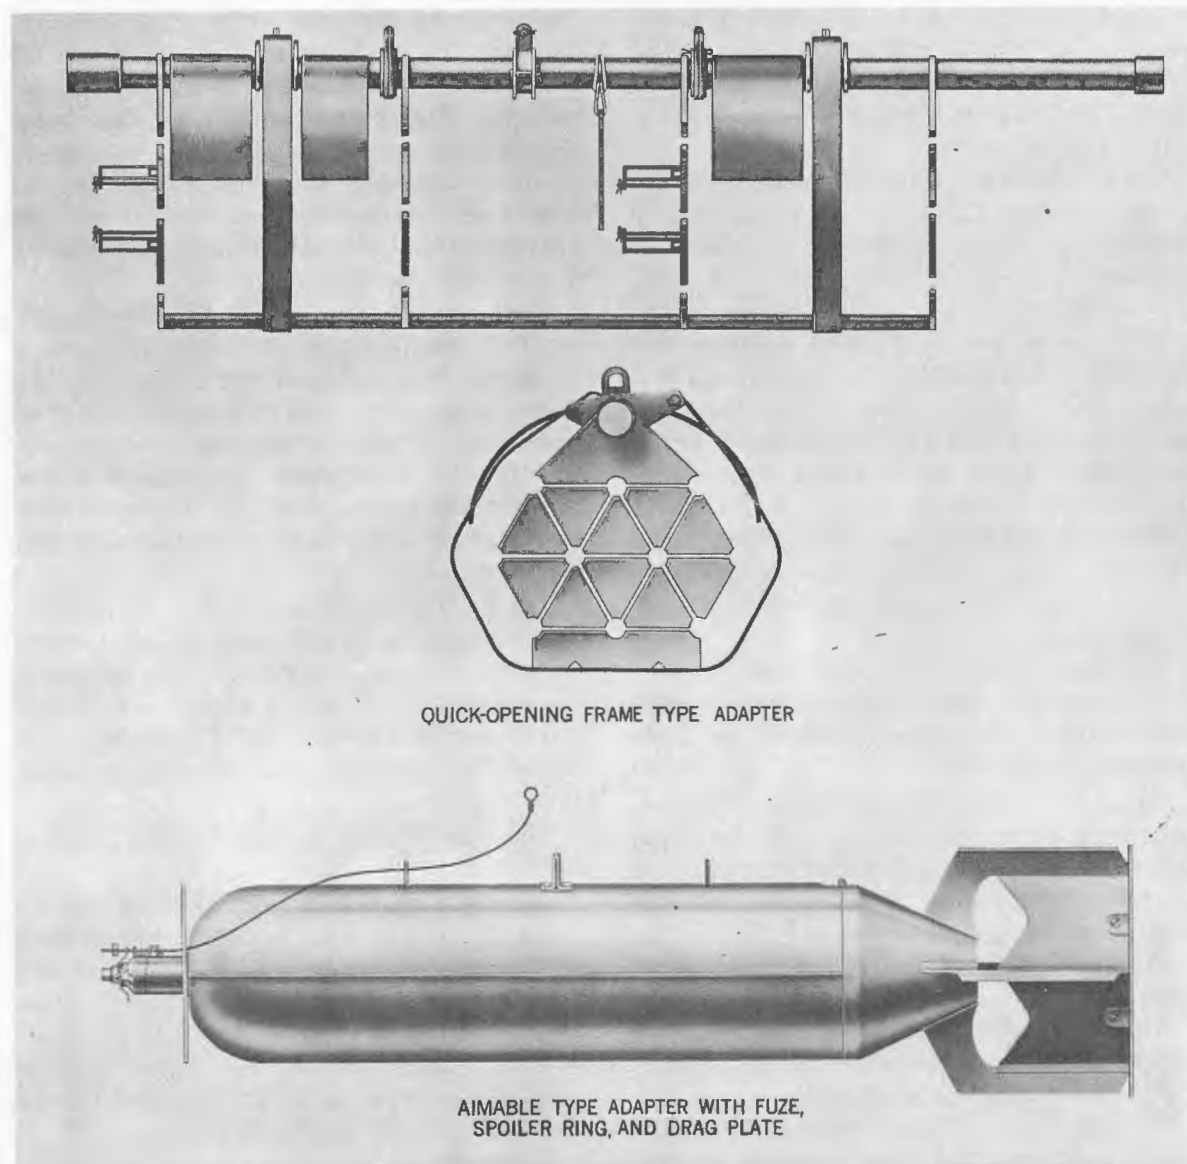

Figure 1-6.—Typical Cluster Adapters.
**Cluster Adapter.** A cluster adapter, figure 1-6, is a mechanical device by means of which several bombs are suspended in the carrying station for one bomb. Two types are covered by this publication: the quick-opening (frame) type to which several bombs are attached by metal straps, and the aimable adapters which enclose the bombs in a cylindrical container.